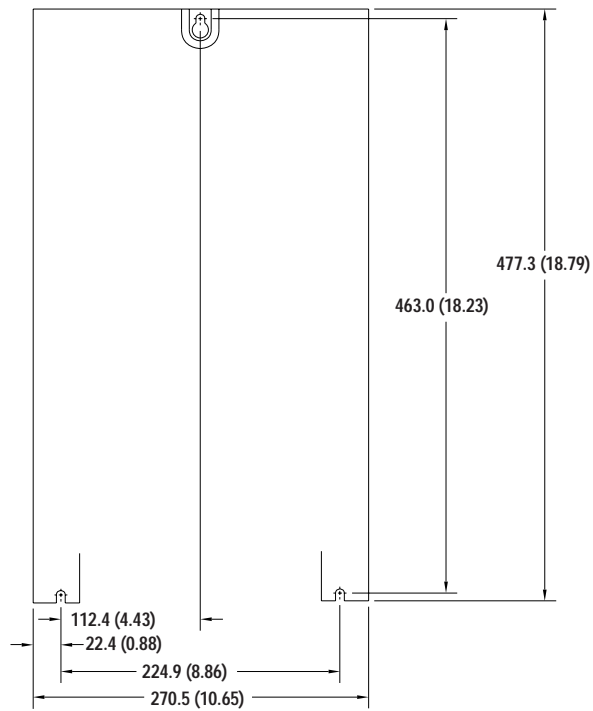

Figure 3.
3. Insert properly sized and rated lifting hooks into the top two 1” holes of the drive chassis (Figure 6). To limit pull in forces on the drive, the lifting devices connected to the hooks must be long enough to make the angle between the chain and a vertical line extending up from the cabinet edge less than 45 degrees as illustrated in Figure 3.